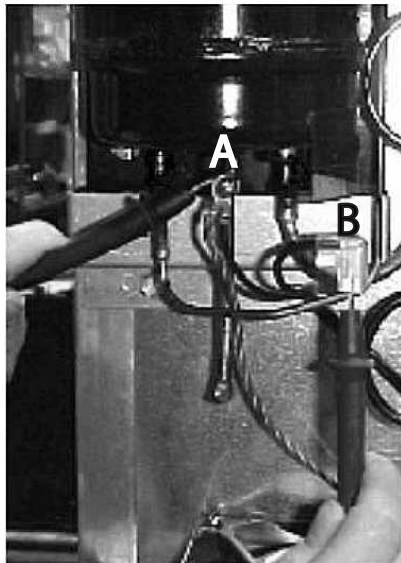

Figure 10. Checking Compressor Voltage
3. Check the compressor voltage between points A and B. Voltage should be between 15V - 25V AC. Refer to Figure 10.